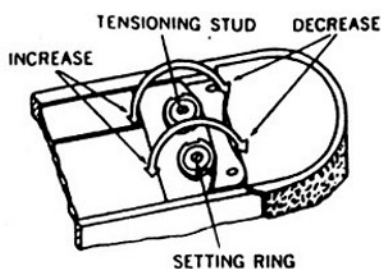

Figure 4-9. Spring Roller Adjustment.
- (5) *Adjusting tension of curtain spring rollers (fig. 4-9).*